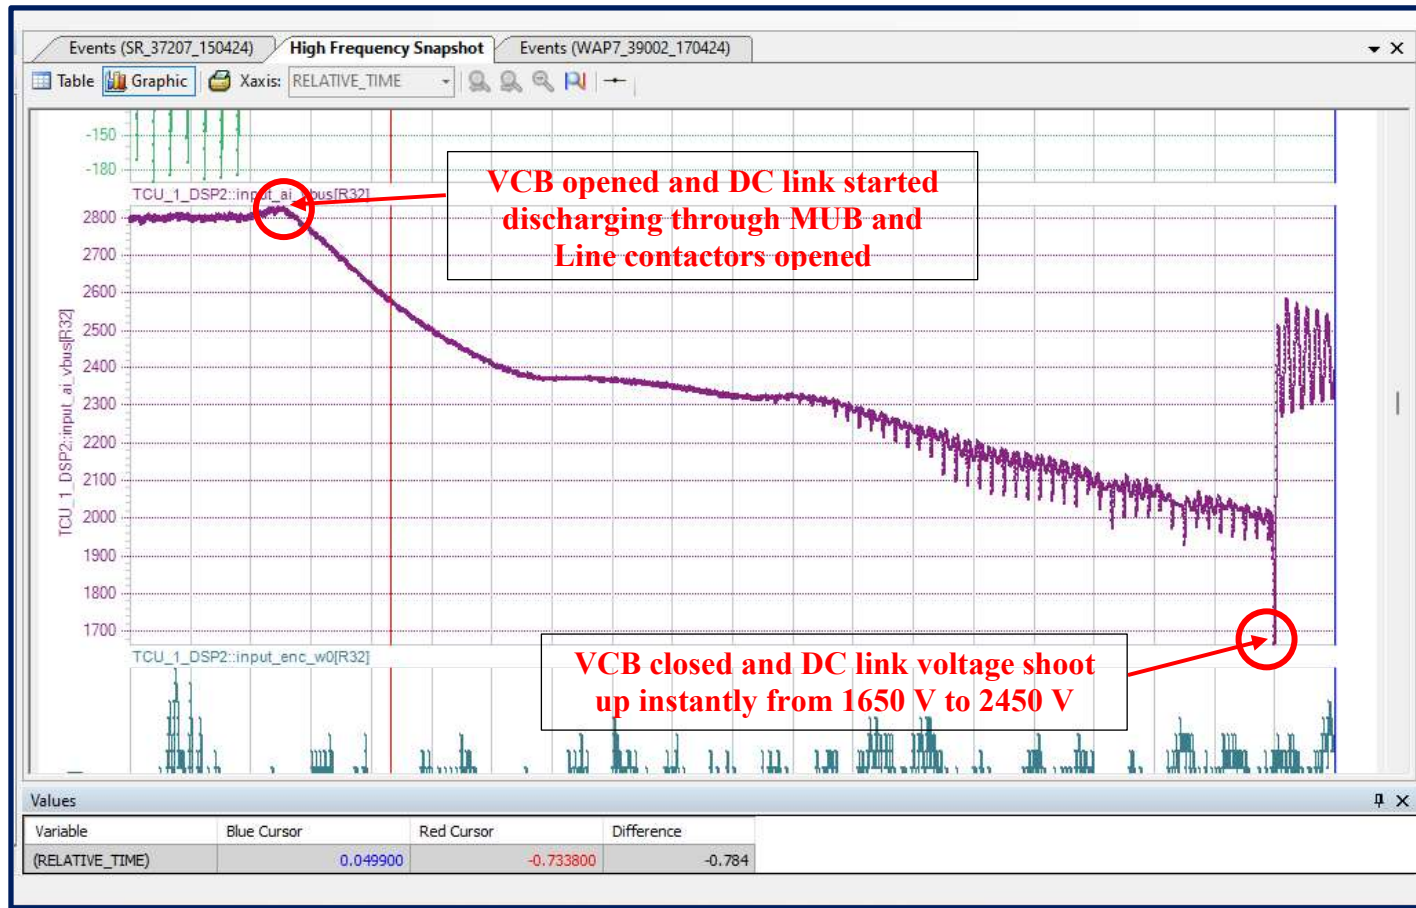

Figure 1: DC-link voltage at the time of OCR action
3. This is because in **CGL Traction Converter's (SR's)**, when every time VCB opens, **Line contactors get opened and DC link discharged through MUB resistor (Figure 1)**. When VCB is closed again, for immediate charging of DC link capacitor (since DC link voltage is too low) rectifier draws over current instantaneously (above 2400 A) and causing heavy inrush primary current (above 960 A). This has caused OCR action in the above failed locomotive.
From the above graphs it is inferred that DC link voltage is discharging after opening the VCB and pulsing of the rectifier H-bridge immediately after closing of the VCB in such a manner that drawing of inrush current by DC link capacitors (DC link voltage set value 2450 V – actual DC voltage at the instant of VCB closed 1650 V(Figure 1)). This sudden increase in the DC link voltage causes over current to flow in the rectifiers of both the Traction converters and hence the primary circuit. In MICAS and other propulsion DC link voltage is maintained and Line contactors remain in closed condition during VCB opening and DC link voltage will be discharged only at the time of protective shutdown.